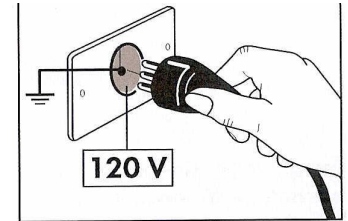

Fig. 1
- Make sure that the electrical installation (1 20V- 60Hz) is earthed and equipped with differential switch, as required by applicable safety regulations (**Fig. 1**)